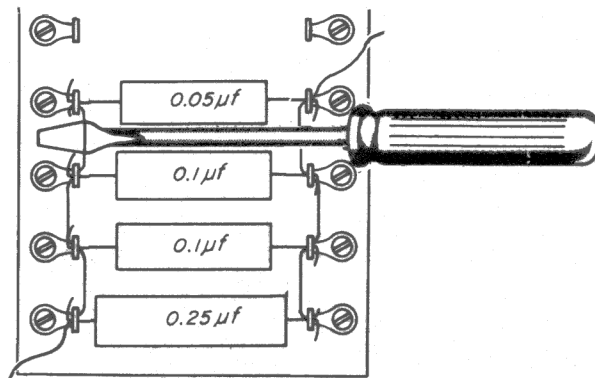

Fig. 18-16
Step 10. Using a long screwdriver that has a well-insulated handle, short out the capacitors on the breadboard. The meter should read the full B^+ output of the power supply, about 250 volts. Record the voltage in the $t = 0$ space of Table A. Hold the screwdriver as shown in Fig. 18-16.